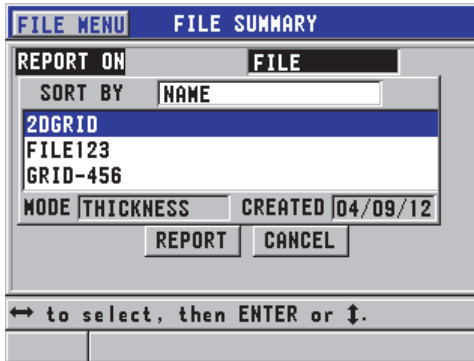

Figure 6-39 The FILE SUMMARY report screen
3. In the **FILE SUMMARY** screen (see Figure 6-39 on page 131):